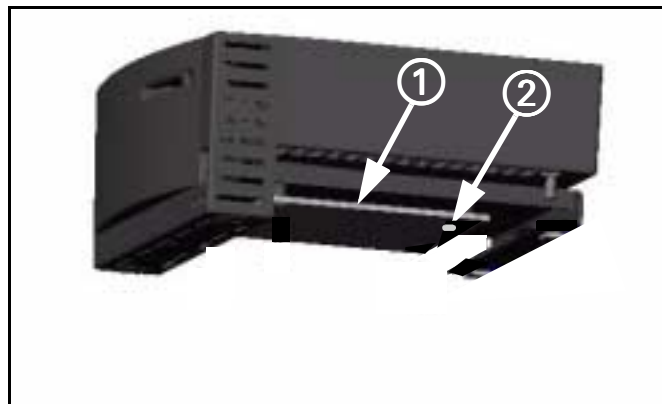
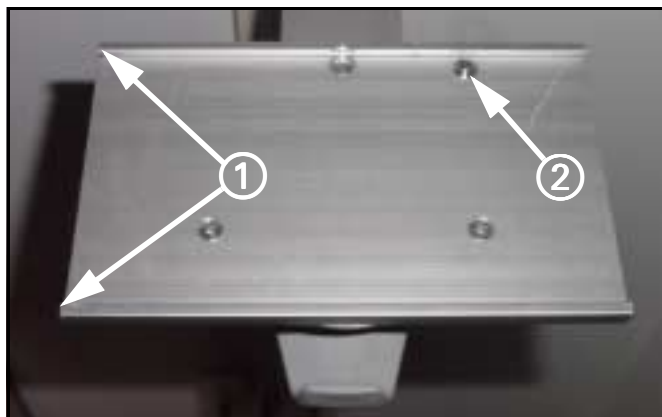

Figure 4-1 Mounting plate
Figure 4-2 Mounting bracket
- 2) Align mounting plate (① in Figure 4-1) on bottom of MDS to slots (① in Figure 4-2) on left side of mounting bracket.
- 3) Pull down and hold spring loaded locking pin (② in Figure 4-2), and slide in MDS to align hole on mounting plate (② in Figure 4-1) with locking pin.
- 4) Set monitor upright with mounting plate aligned to slots on left side of mounting bracket (see Figure 4-2 on page 8), and slide monitor into bracket so that hole on mounting plate aligns with locking pin.